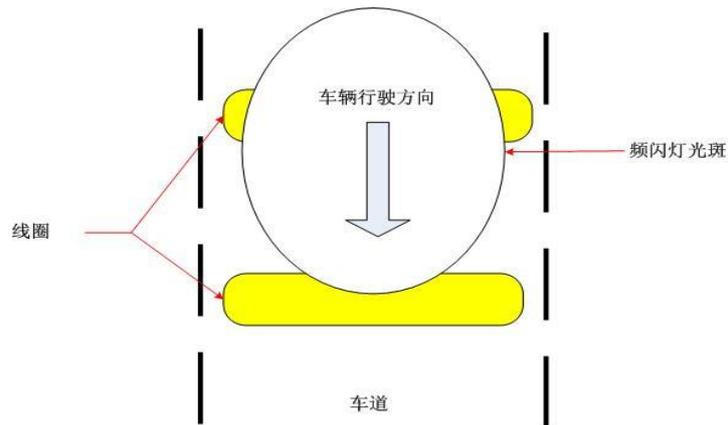

Figure 4- 1
Step 3: Check strobe light spot within the video scene in which the position of the spot position if normal, end the process; if the spot abnormal position, adjust the fill angle strobe light to re-launch the process; see Figure 4- 1.